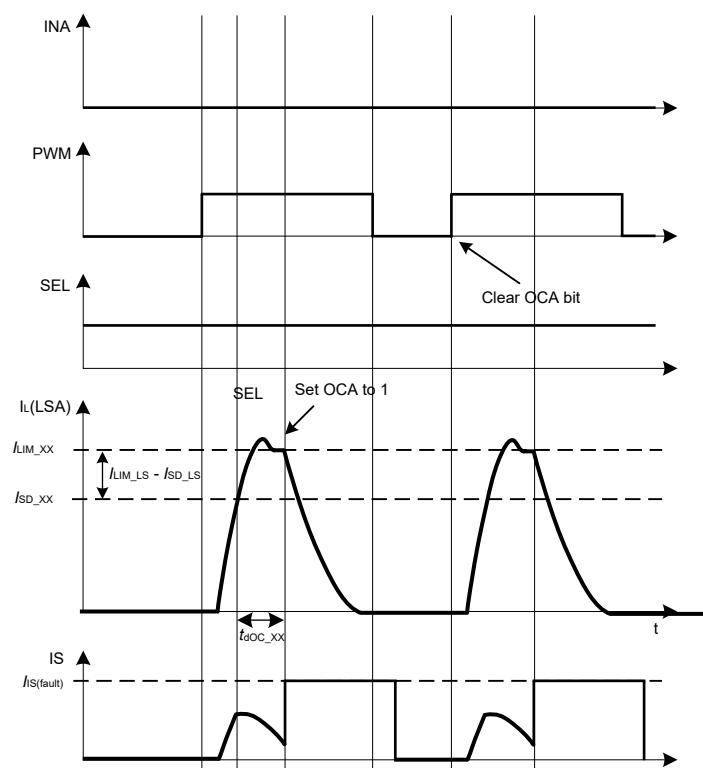

Figure 22 Recovery of short circuit and overcurrent protection by input bits
- Switch on the MOSFETs by input pulse (PWM, INA and INB) as shown in Figure 22
As shown in Figure 22 the recovery will be controlled by the input bits in the control byte.